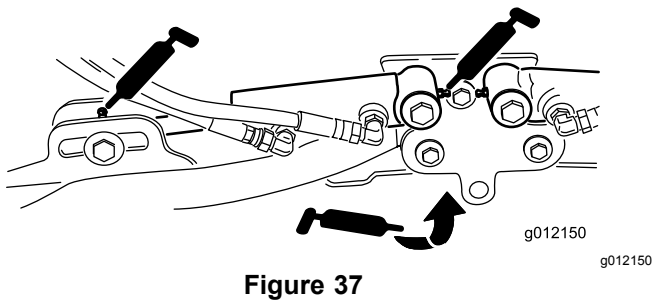

Figure 37
- Cutting-unit lift-arm cylinders (2 each) (Figure 37)